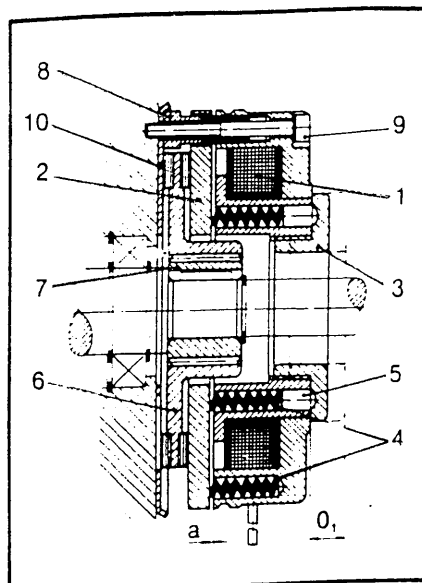

FIGURE 1
The Lenze Electromagnetic Release, Spring Set Brake - Type 14.448, as shown in Figure 1, produces its stopping torque by the use of multiple springs (4) exerting pressure against the armature plate (2). The armature plate, in turn, is forced towards the friction plate (8) (or mounting flange (10)) compressing the dual faced friction rotor (6) between the armature plate and the friction plate (or mounting flange). Figure 1 illustrates the position of the armature plate, friction rotor and friction plate in the set position. The rotor is internally splined to the hub (7) which is keyed to the shaft.
(NOTE: Air gap dimension is illustrated in Figure 1 denoted by "a").
The brake is supplied from the factory with the nominal torque settings. This torque can be reduced by unscrewing the torque adjustment ring (3) with a spanner within the limit of the "0," dimension given in Table 1 and depicted in Figure 1. The torque adjuster ring has detent action with torque variation per step given in Table 1.
In most applications, the brake needs practically no maintenance. However, after a long period of operation, or if the brake has a high duty cycle, adjustment of the air gap ('a', Figure 1) may be necessary. When the 'a max' value shown in Table 3 is exceeded, adjust the value back to 'a' using the air gap adjustment instructions described in Section V, step 9 of the assembly instructions.